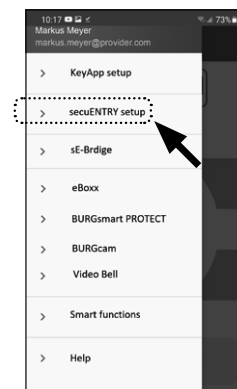

Fig. 6
- Tap on the menu item "secuENTRY setup" (Fig. 6).